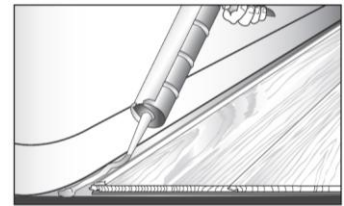

Fig. 22
6. All perimeter expansion zones must be completely filled with 100% silicone caulk following the manufacturer's recommendations. When applying caulk, it is helpful to first apply a strip of masking tape parallel to and approximately 1/32" (.79 mm) from the edge of the laminate **(Fig. 22)**. Then fill the expansion zone with caulk, remove the excess with a plastic scraper or putty knife and remove the tape.